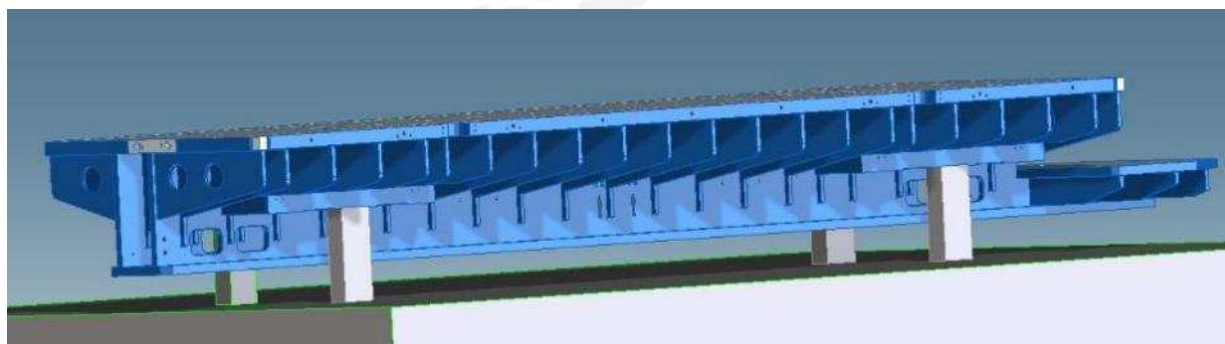

Figure 3: Girder supported at 4 center mounting block locations.
8. Ensure that the girder has been inspected on a CMM while supported as shown in Figure 3 and the report has been provided to LBNL.